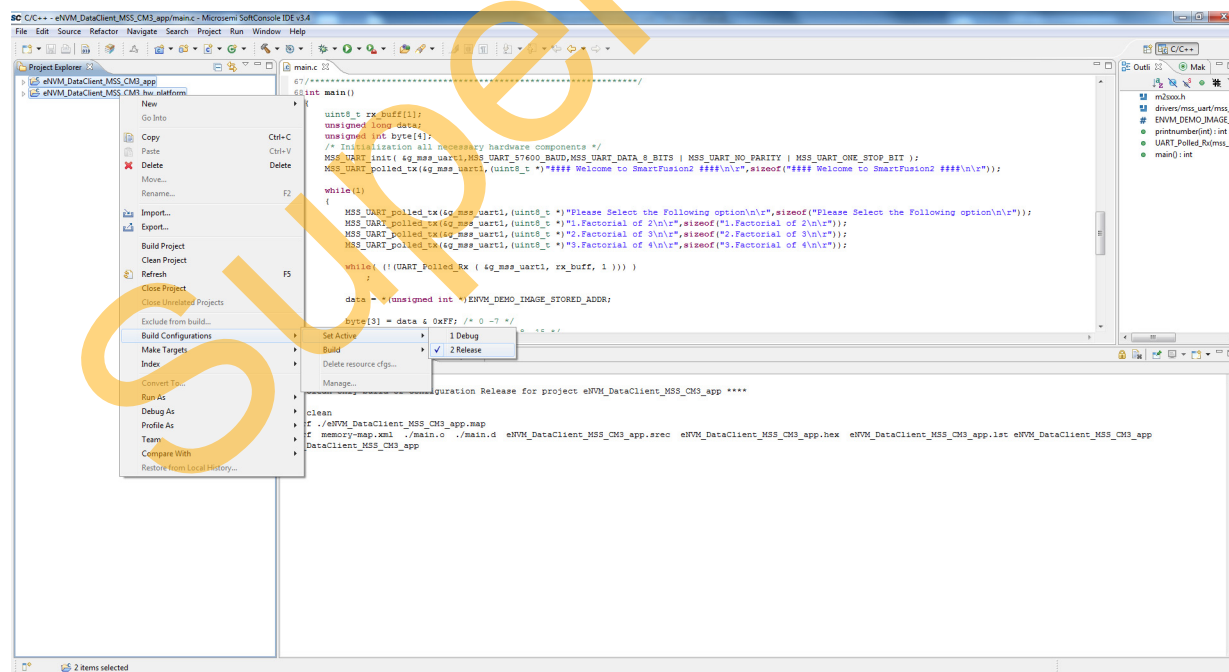

Figure 8 • Building Configurations
5. Right-click both the project names in the **Project Explorer** view and select **Build Configurations > Set Active > Release** as shown in Figure 8.